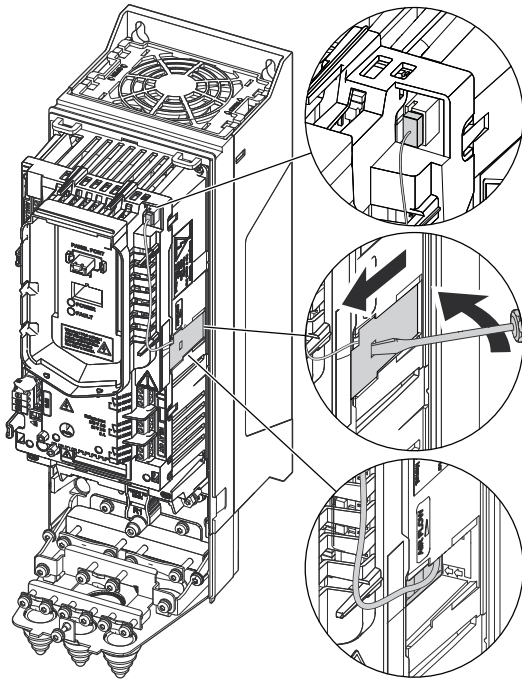

Fig. 65 — Remove Auxiliary Fan
4. Unplug fan power supply wires from the drive (see Fig. 65).
5. Remove the fingerguard: Insert a screwdriver into the hole of the fingerguard (see Fig. 65).
6. Unplug the fan power supply wires from the drive (see Fig. 65).